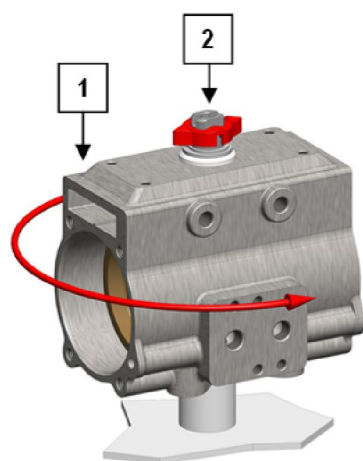

Fig.9
8. Rotate the cylinder (1) in counterclockwise direction (top view) holding the pinion (2) so as to release the rack of the pistons (12) from the pinion (2) and to push the pistons towards to the cylinder ends. Now both pistons (12) can be removed see Fig. 9.